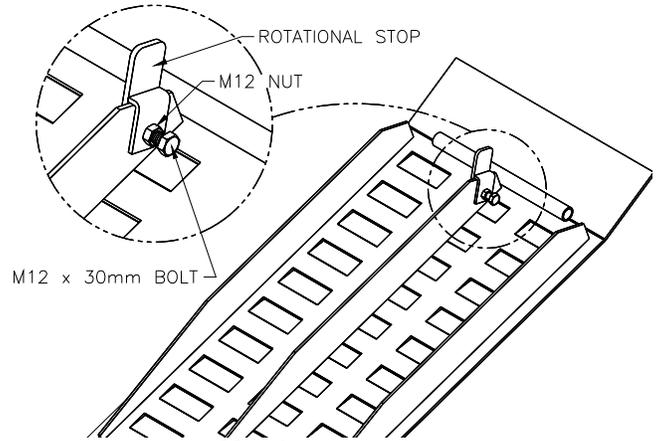

Fig 30 – Rotational Stop
- 4) Turn the ramp over and install the ramp rotation stop as shown in **Fig 30**. Use the provided M12 x 30mm Lg. bolt and M12 nut.
- 5) Place the stop on the gusset as shown in **Fig 30**, assembly the nut onto the bolt prior to installing the bolt into the stop. Torque the bolt against the ramp gusset and lock into place with the nut.